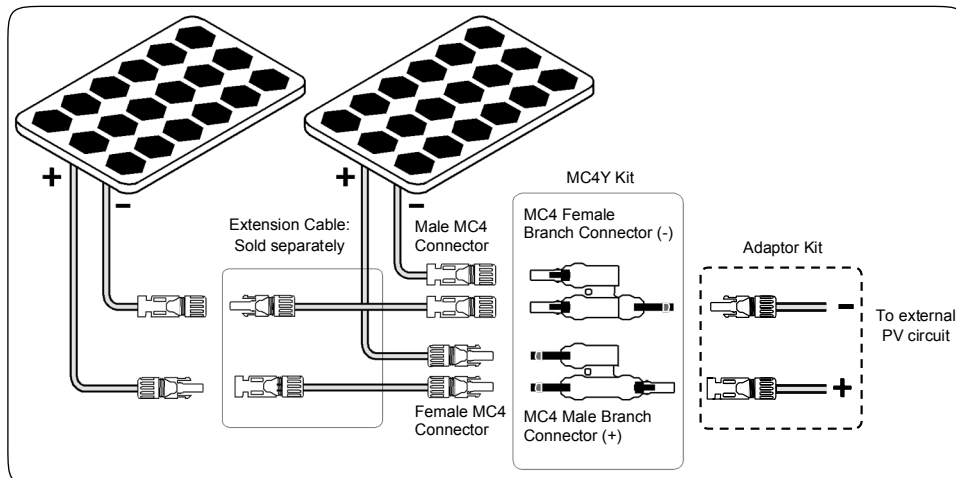

Fig. 5.6. Connecting two adjacent solar panels in parallel separated by an extended distance.
5.6. Connecting Two Solar Panels in Parallel When Separated by Distance (Fig. 5.6)
Fig. 5.6 above shows an arrangement for connecting two solar panels in parallel that are separated by an extended distance. In this case, the following will be required: